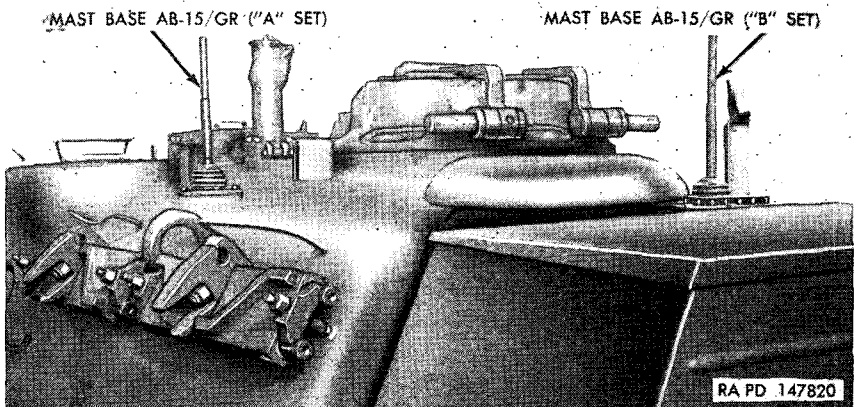
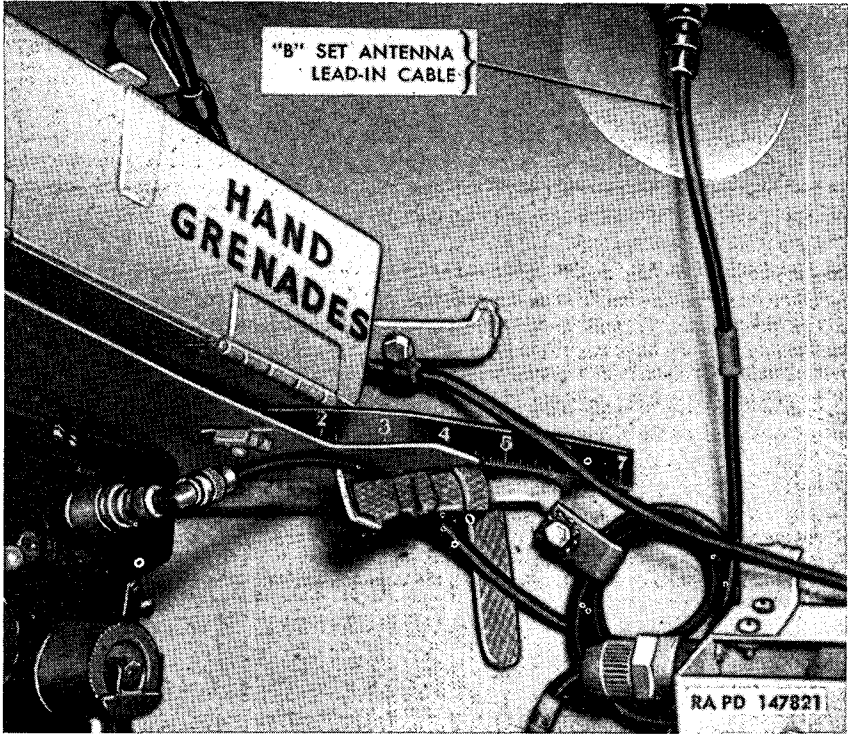

Figure 375. Mast bases AB-15/GR.
Figure 376. "B" set antenna lead-in cable.
b. MAST BASE AB-15/GR. Mast base AB-15/GR (fig. 375) consists of a flexible stem, a feed-through porcelain insulator, and provisions on the bottom for connecting the antenna lead-in cable (fig. 376). The mast sections are of flexible steel tubing.
c. REMOVAL. Unscrew bottom mast section from mast base (fig. 375), separate sections from each other, and stow in bag CW-206/GR supplied with the radio set. Disconnect antenna lead-in cable (fig. 376). Hold bottom insulator of mast base stationary (fig. 375) and turn flexible stem counterclockwise until upper and lower sections of mast base can be separated and removed.